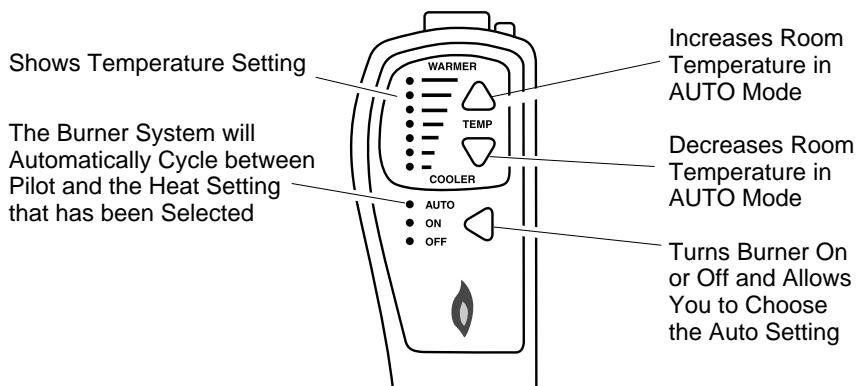

Figure 52 - Hand-Held Thermostat Remote Control Unit Selections (GHRCTA Only)
- 2b. Press the AUTO/ON/OFF button on the hand-held remote control (see Figure 52). The lights to the left of the button will show AUTO, ON, or OFF.